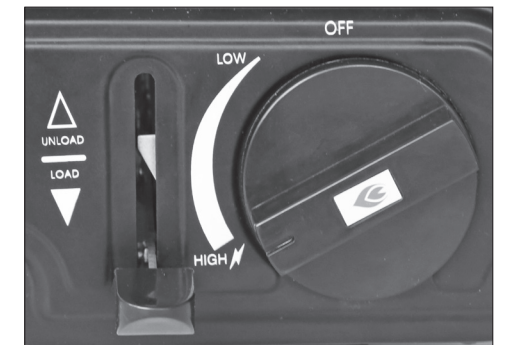

Fig. 4
1. Push and turn the knob anti-clockwise past the '⚡' position until a click is heard (Fig. 4).